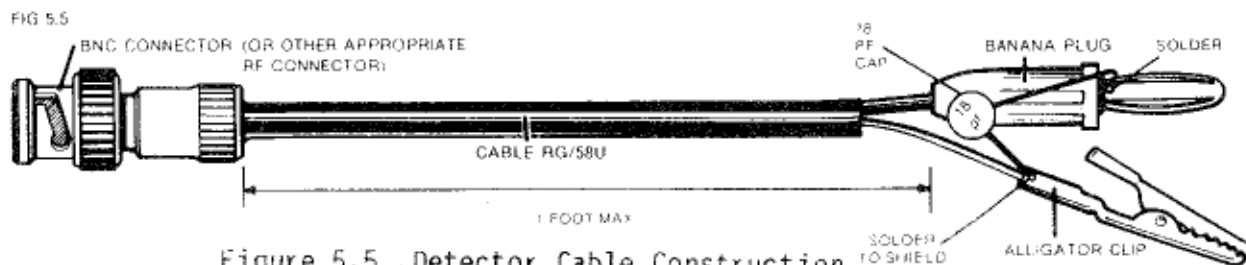

Figure 5.5 Detector Cable Construction
- 5) Detector RF Cable Assembly (Figure 5.5)
- 2) Construct a detector assembly cable as shown in Figure 5.5. Connect the banana plug end into the detector, connect the alligator clip to ground, and hook the RF connector up to a 50 ohm load. (It is not necessary to remove the detector assembly from the coupler chassis.)